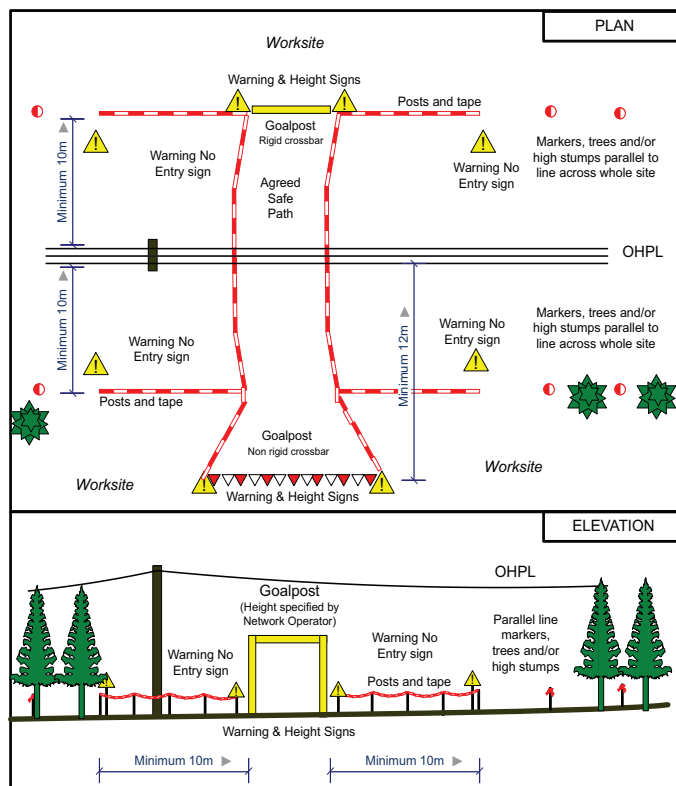

Figure 1: Site layout
- ❑ **27** Within the worksite, the FWM will clearly identify the safe clearance for driving alongside OHPLs and underground cables by providing suitable barriers. In many cases, marked trees or high stumps will form the basis of a suitable barrier, as long as there is no opening which would allow access for vehicles. The absolute safe minimum driving distance from the barriers to the OHPL is 10 m. The Network Operator may advise distances greater than 10 m depending on the voltage of the line and the nature of the terrain. See *Figure 1*.